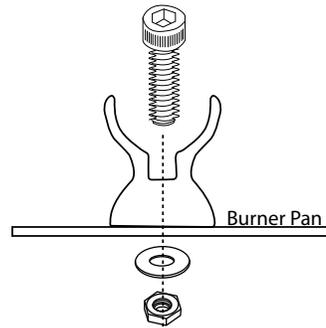

Fig. 9 Shows assembly of burner support to pan.
**Step 5:** Drill (3) 1/4" holes into the burner pan to attach the burner supports. See Fig. 9.
**Step 6:** Using the 5/32" Allen wrench (not supplied) screw, nut and washer for each burner support secure them to the burner pan. Fig. 9.